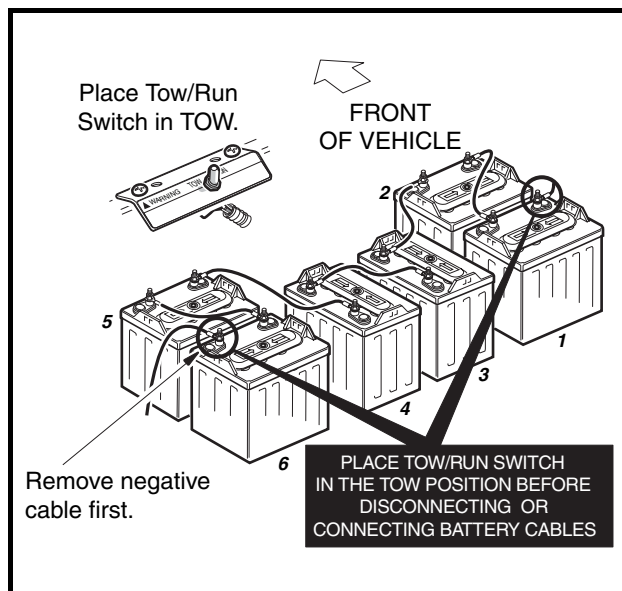
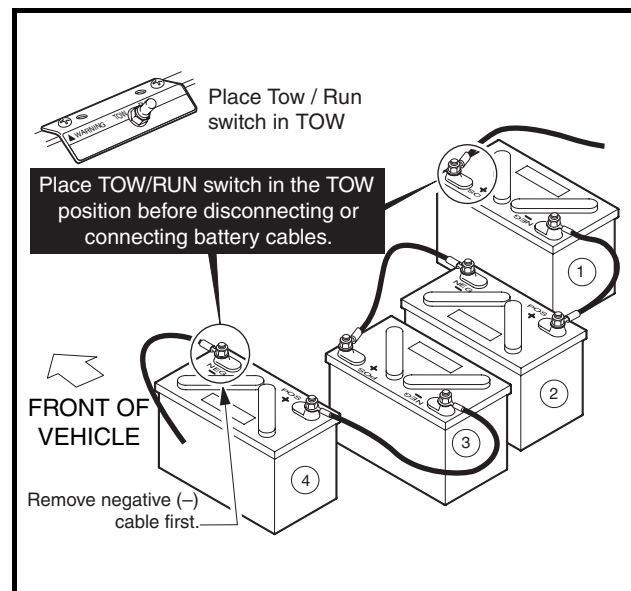

Figure 10-1 Turf1/Carryall1 IQ System Battery Configuration
Figure 10-2 DS and DS Villager 4 IQ System Battery Configuration
- To avoid unintentionally starting the vehicle, place Tow/Run switch in the TOW position, then disconnect the batteries as shown (Figure 10-1, Page 10-2) and (Figure 10-2, Page 10-2).